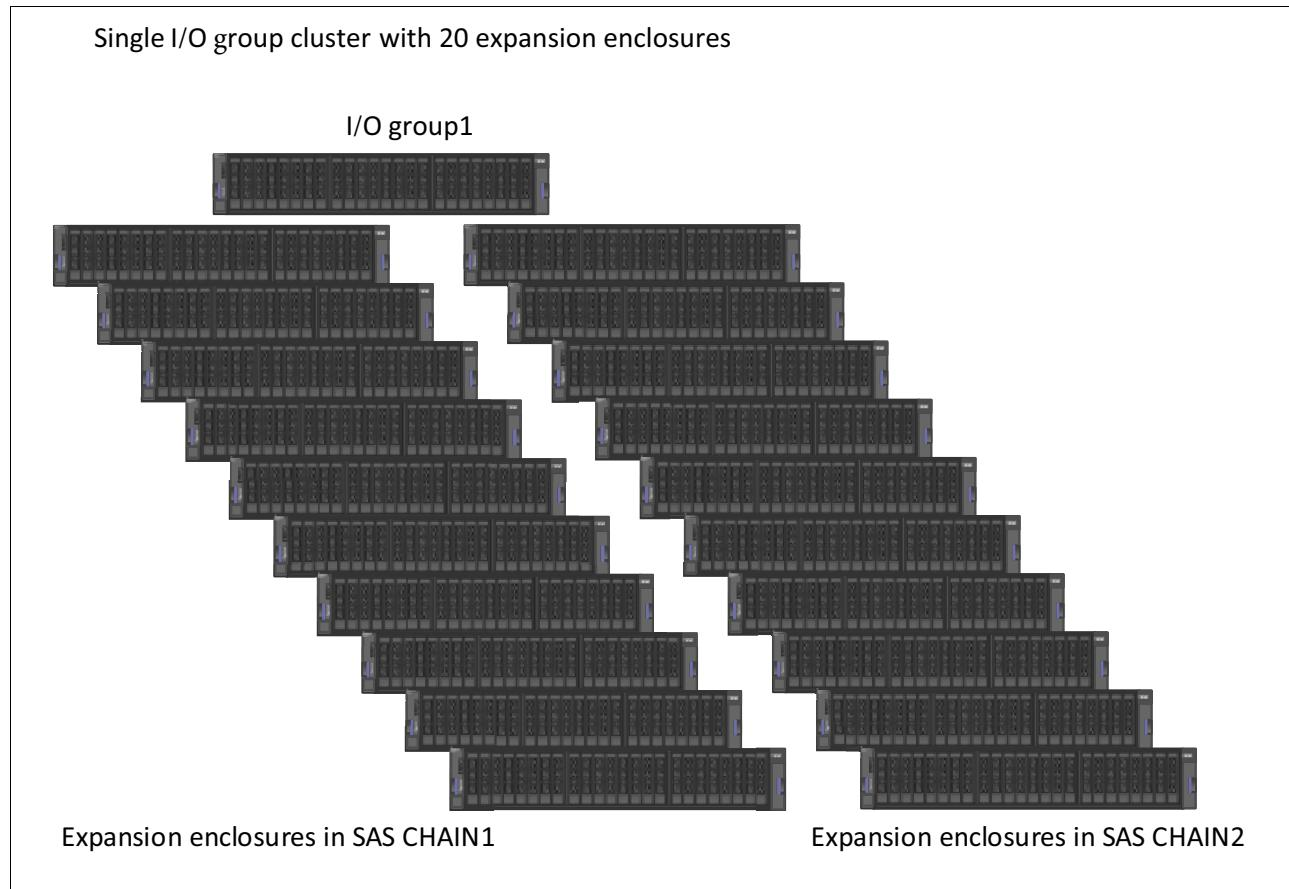

Figure 3-9 An IBM Storwize disk system with 20 expansion enclosures that are connected to a single I/O group
*Expansion enclosures* are additional disk enclosures that are connected to control enclosures to provide more storage capacity. These expansion enclosures are connected to control enclosures through SAS chains from control enclosures. The high-end IBM Storwize disk systems can connect 20 expansion enclosures through two SAS chains. Figure 3-9 shows an example configuration where a single control enclosure is connected to 20 expansion enclosures.